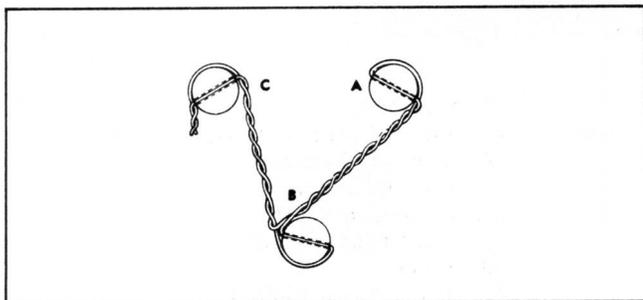

Figure 6-8. Armature Safety Wiring
(1) Use a soft annealed No. 19 (0.041) to No. 21 (0.032) W and M gauge steel wire. Wiring must be tight throughout the procedure.
(2) Insert wire into pin A, Figure 6-8 until the ends of the wire are even.
(3) Twist wire together until pin B is reached. A loosening action on pin B would be resisted by a tightening action on pins A and C.